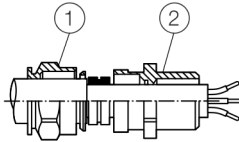

Figure 6: Tighten the cable gland
IP rating IP66 / 67 is only achieved by installing the black neoprene sealing ring between the cable gland and the housing and by observing the tightening torque of 3.6 Nm (Figure 6, item ②).
5. Tighten the cable gland until the cable is firmly enclosed by the sealing ring (Figure 6, item ①). Do not tighten more than 1.5--times of the specified torque on the cases (see assembly instructions)!